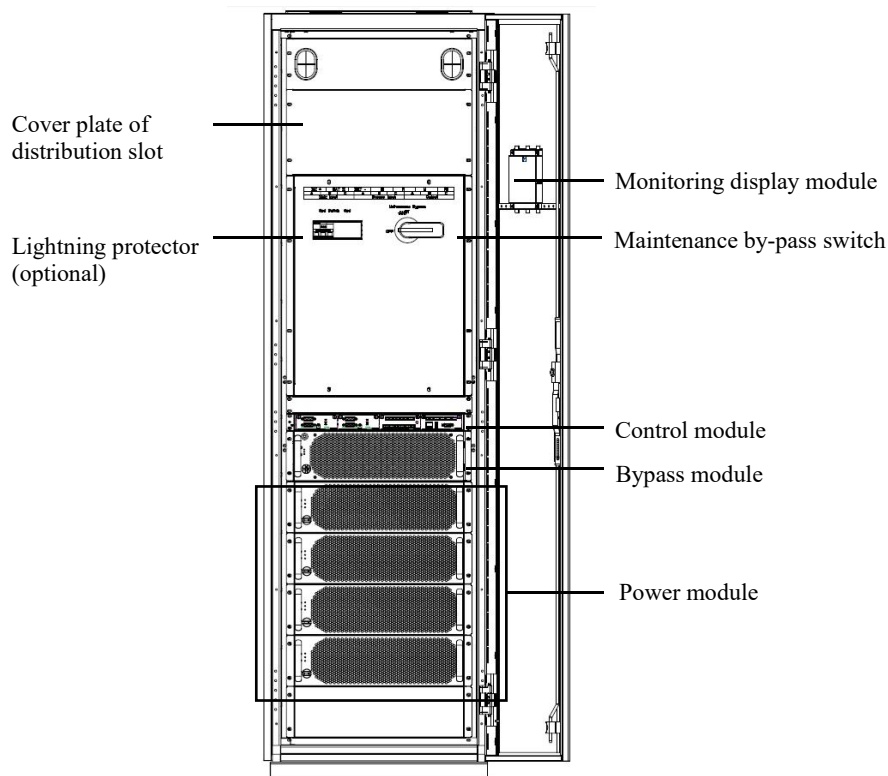

Fig. 1-4 Structure of 200kVA UPS (standard)
1) The standard structure of 200kVA UPS is shown in Fig. 1-4 in which the front door of the UPS is opened.